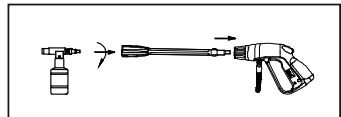

Figure 6 Attach applicator to gun
3. Attach Detergent bottle to lance (see figure 6).